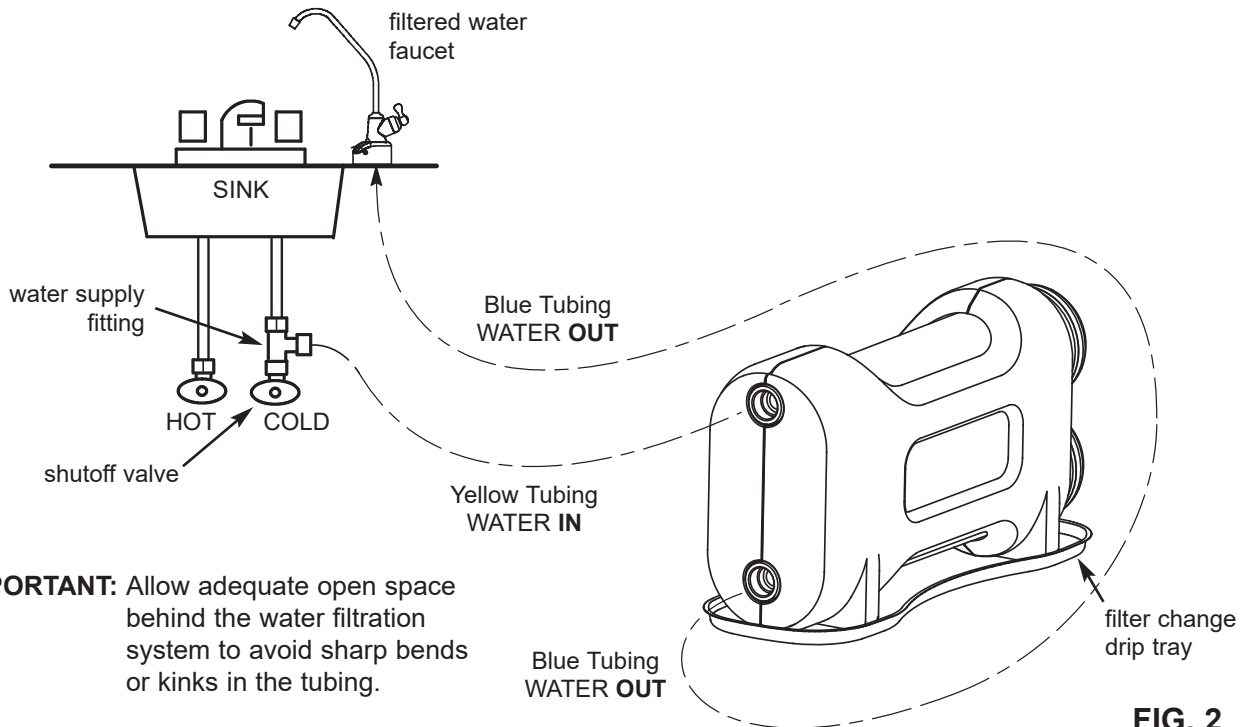

FIG. 2
1. Allowing some slack, measure and cut a length of 3/8" tubing to connect between the supply fitting and the filter system inlet (See Figure 2). Cut the ends of the tubing square.
3. Repeat steps 1 and 2 to connect tubing from the faucet to the filter system outlet (See Figure 2).